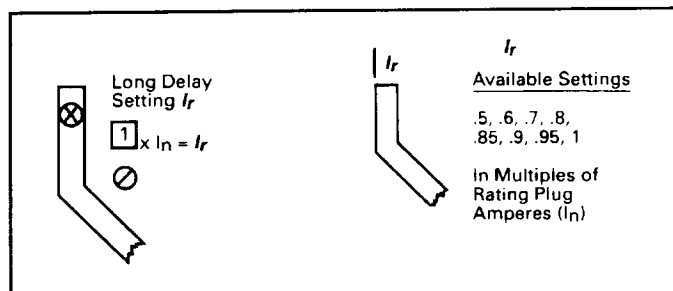

Fig. 8.1 Long Delay Current Settings
Prior to placing any circuit breaker in operation, each Trip Unit protection setting must be set to the values specified by the person responsible for the installation. The number of settings that must be made is determined by the protection supplied as illustrated in Figs. 8.1 through 8.7. Each setting is made with a rotary switch, using a small screwdriver. The selected setting for each adjustment appears in its respective rectangular viewing window as illustrated in Fig. 1.
The available settings, along with the illustrated effect of changing the settings are given in Figs. 8.1 through 8.7.
There are eight (8) available Long Delay "Pick-up" Current Settings, as illustrated in Fig. 8.1. Each setting, called " I_r ", is expressed as a multiple (ranging from .5 to 1) of the rating plug current (I_n).